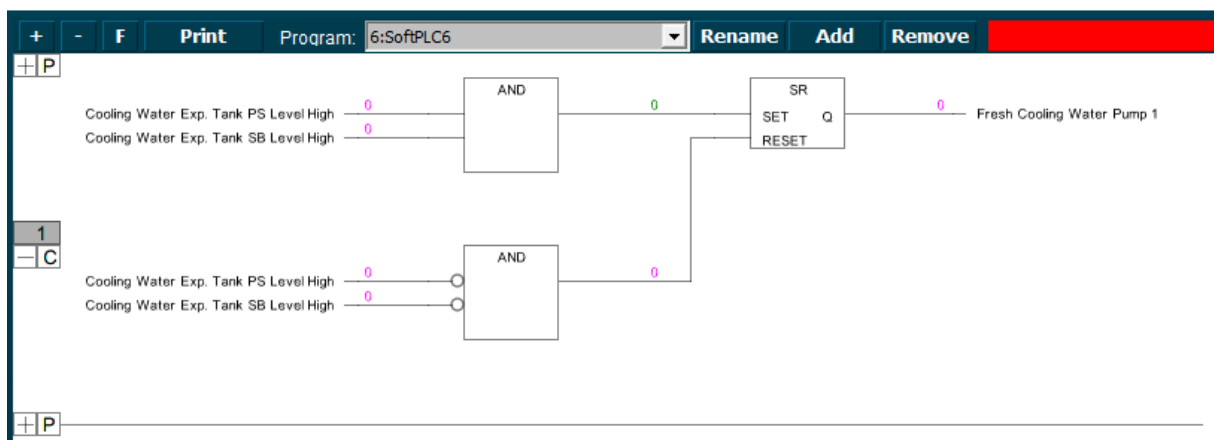

Figure 1-17: Example 5
So, the SET is made. The pump will run once the conditions are met. However we do want to reset the pump as well. In the Set/Reset-box you see a reset entrance. Click here and choose “Function” “AND” or “OR” whichever you want to use. We will use the AND-function for this example. You will get a new “AND” box which we will connect to the same fields as we did in the first box. Except this time we will negate them. This means that the conditions are met if the field is NOT high (1) or in this case they must be low (0) to meet the conditions. You can negate these fields by clicking your mouse at the line near the box. A circle will appear (see Figure 1-17).